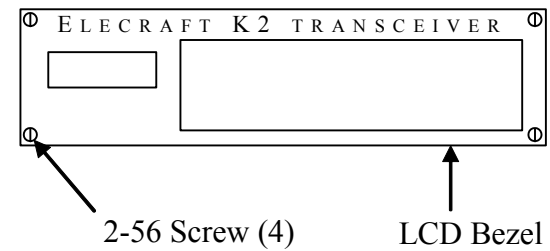

Figure 5-15
- ❑ Position the clear plastic LCD bezel over the LCD and bargraph holes as shown in Figure 5-15. The bezel goes on the *outside* of the panel.
- ❑ Secure the bezel with four 2-56 screws (stainless steel) as shown in Figure 5-15. **Tighten the 2-56 screws only the amount needed to hold the bezel to the front panel. Over-tightening may crack the bezel or strip the threaded holes in the panel.**